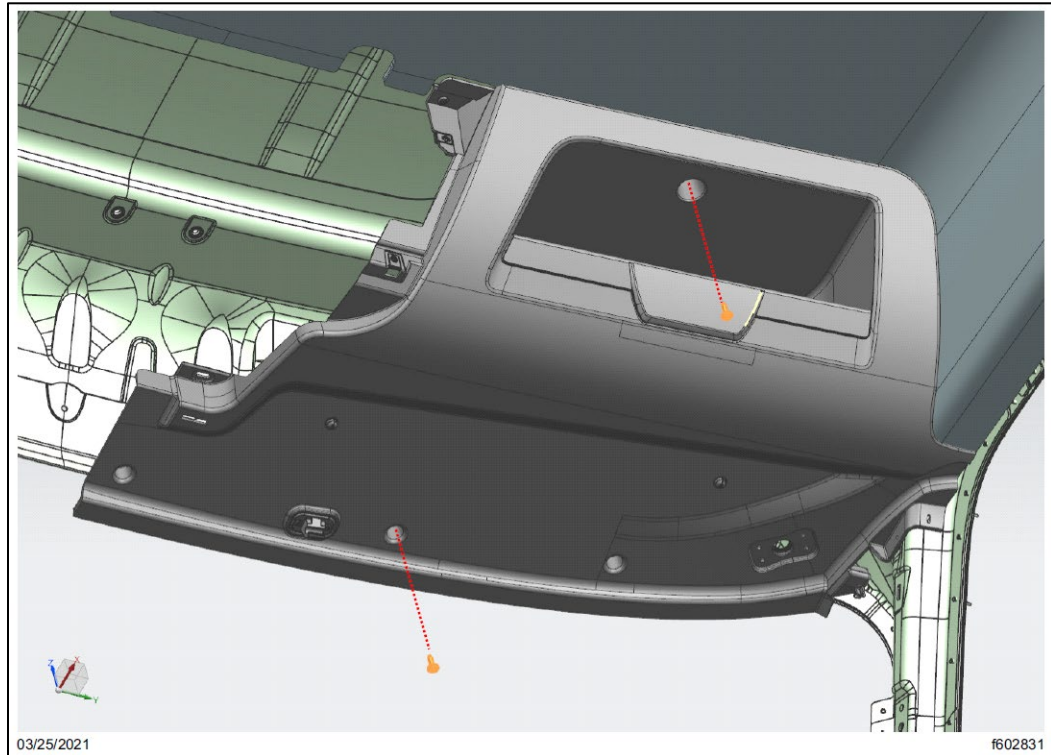

Fig. 20, Fasteners Attaching RH Side Overhead Storage Cabinet to the Cab Roof
- 3.2. Remove the two fasteners that attach the RH side overhead storage cabinet to the cab roof, and then remove the RH Side overhead storage cabinet from the vehicle. See Fig. 20.